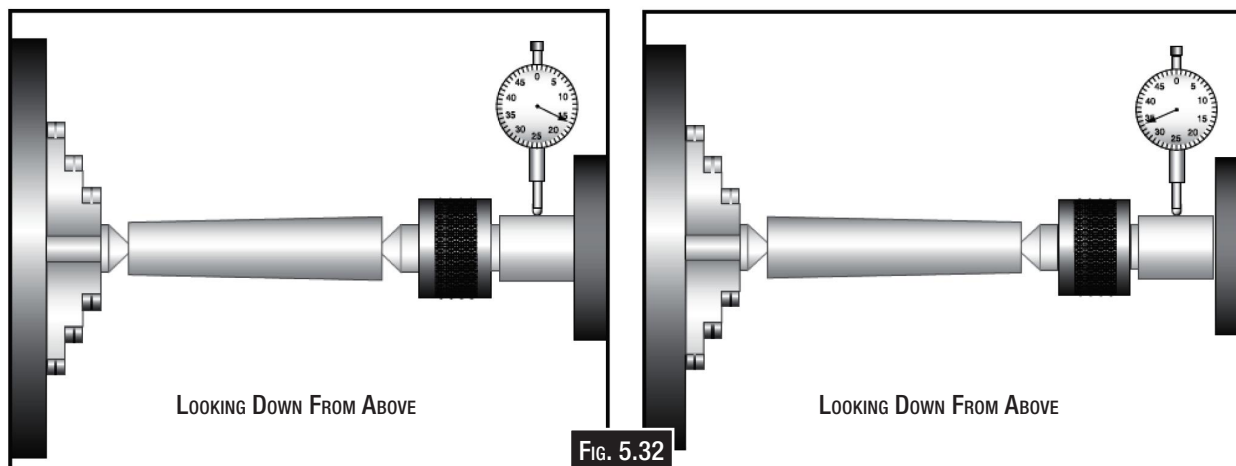

FIG. 5.32
4. Attach a lathe dog to the chuck bar stock from step 1, and mount between the centers (Fig. 5.32).
7. Measure the stock with a micrometer. If the stock is wider at the tailstock end, the tailstock needs to be moved toward the front of the lathe half the amount of the taper. If the stock is thinner, at the tailstock end, the tailstock needs to be moved toward the rear of the lathe by half the amount of the taper (Fig. 5.32)